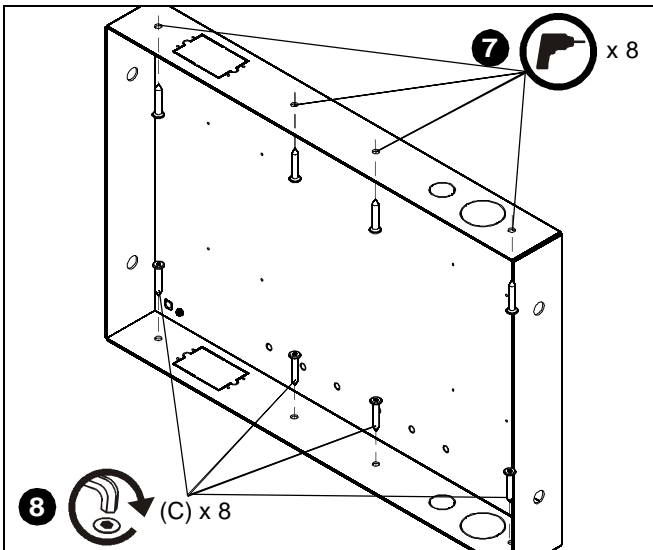

Figure 6
7. Drill eight 3/16" diameter pilot holes in horizontal framing at top and bottom mounting holes. (See Figure 6)
8. Attach the PAC-501 to horizontal framing using eight M7 x 40mm Allen head connector screws (C) using an M4 Allen head drill bit (E). (See Figure 6)